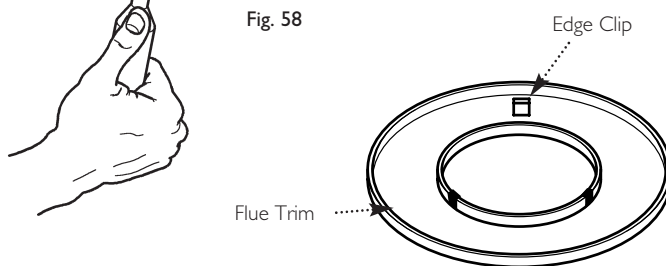

Fig. 59
- b) Take the three edge clips from the kit and fit them equi-spaced onto the inner flange of the trim (Fig. 59).